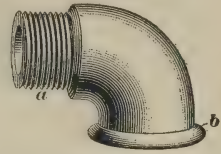

FIG. 10
**23.** **Street elbows** are used in steam-fitting work only in places where the connection must be made too close to use the regular form of elbow and a short piece of pipe. The name is derived from the use to which they are put by plumbers and gas-fitters, being used by them to connect water and gas pipes to openings tapped in the street mains. They are sometimes used by boiler makers in making a close right-angle connection to the shell of a boiler or a tank, and by steam fitters in connecting feed-pipes where space is limited between the boiler and brick-work, etc. They are also called male and female elbows, the female part *b*, Fig. 10, having a thread into which a pipe can be fitted and the male part being the outer threaded end shown at *a*. Street elbows are usually made of malleable iron; nearly all malleable-iron fittings are reenforced by a round bead, shown at *b*.